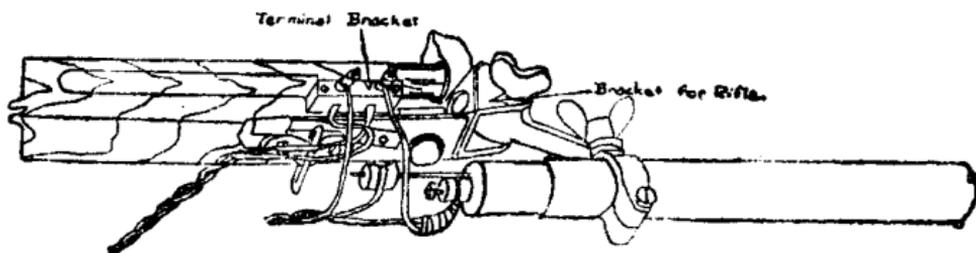

FIG. 7
2. Fig. 7 shows the modification necessary to provide a fitting for the Thompson Machine Carbine with horizontal foregrip and no compensator. The only additional fittings required are :—